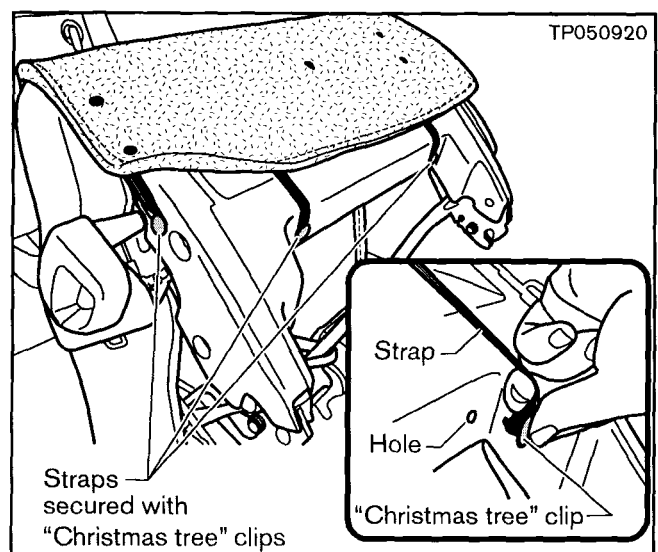

Figure 22
- l. Secure the carpet flap attachment straps to the inboard side cover and the ISOFIX cover with the short “Christmas tree” clips (see Figure 22).